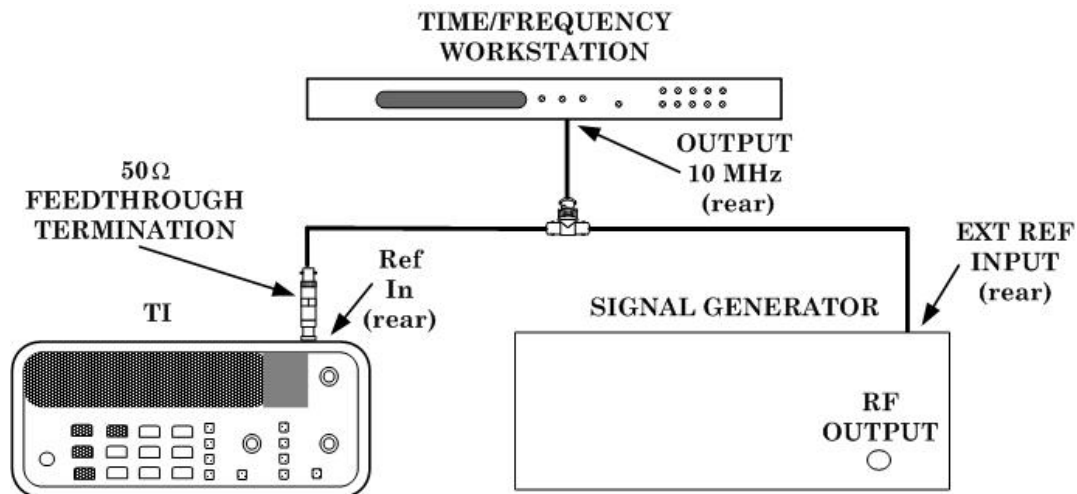

Figure 2. Equipment setup.
- (1) Press and release **TI POWER ON/STBY** pushbutton to **STBY**.
- (2) Press **TI POWER ON/STBY** pushbutton to **ON**.
- (3) Connect equipment as shown in figure 2.